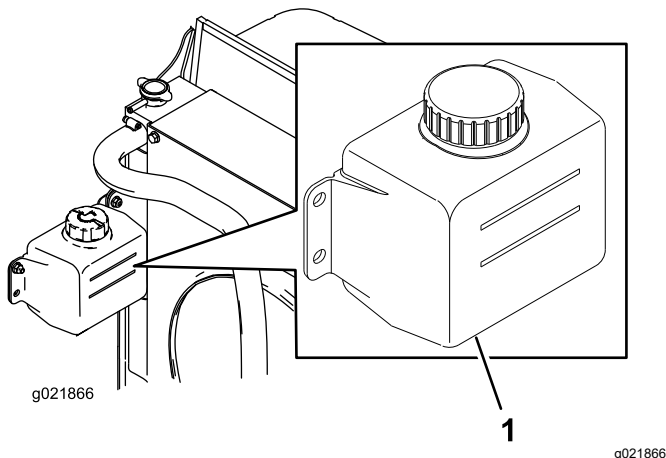

Figure 51
1. Check the level of coolant in the expansion tank (Figure 51).